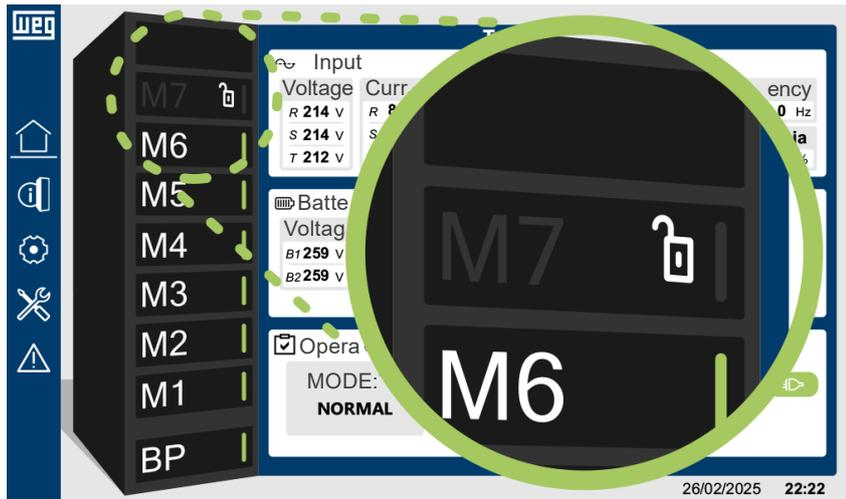

Figure 7.2: HMI indications of the module status
The product HMI displays the *status* of the power modules and the *bypass* module, as shown in Figure 7.2 on page 7-6.
- *Slots* without a module installed: shown as a black *slots* on the HMI, as in power module 8 (M8) in Figure 7.2 on page 7-6.
- Module installed but *hotswap* latch unlocked: when the module is inserted and initialized but the *hotswap* latch is in the unlocked position, it is shown with an open-padlock icon and its LED turned off, as in power module 7 (M7) in Figure 7.2 on page 7-6.
- Locked and operating module: a module with the *hotswap* latch in the locked position and operating normally is indicated by its *rack* position number and the LED color corresponding to its *status*. For example, power module 6 (M6), operating normally with no alarms or faults, is shown in Figure 7.2 on page 7-6.